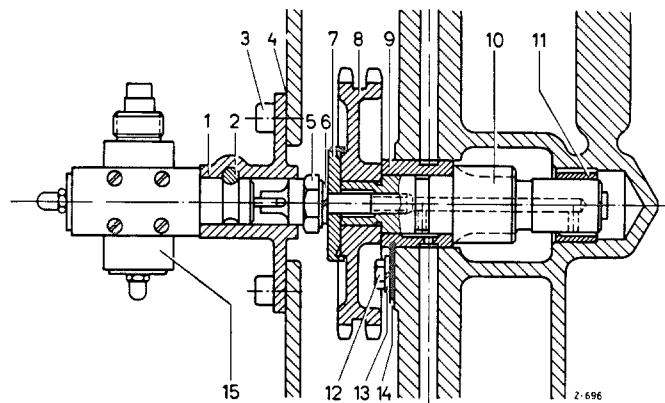

Fig. 18-1/5
On Model 190 SL the angle drive for the revolution counter (15) is driven by the idling gear shaft (10) via the driving screw (5). An additional centering disk (7) is located on the collar of the idling gear (8) and centers the driving screw (5) for the revolution counter (Fig. 18-1/5). When repairs are carried out, the idling gear cannot be replaced by a standard idling gear as used on Models 180 a, 180 b, 220 a, 219, and 220 S.